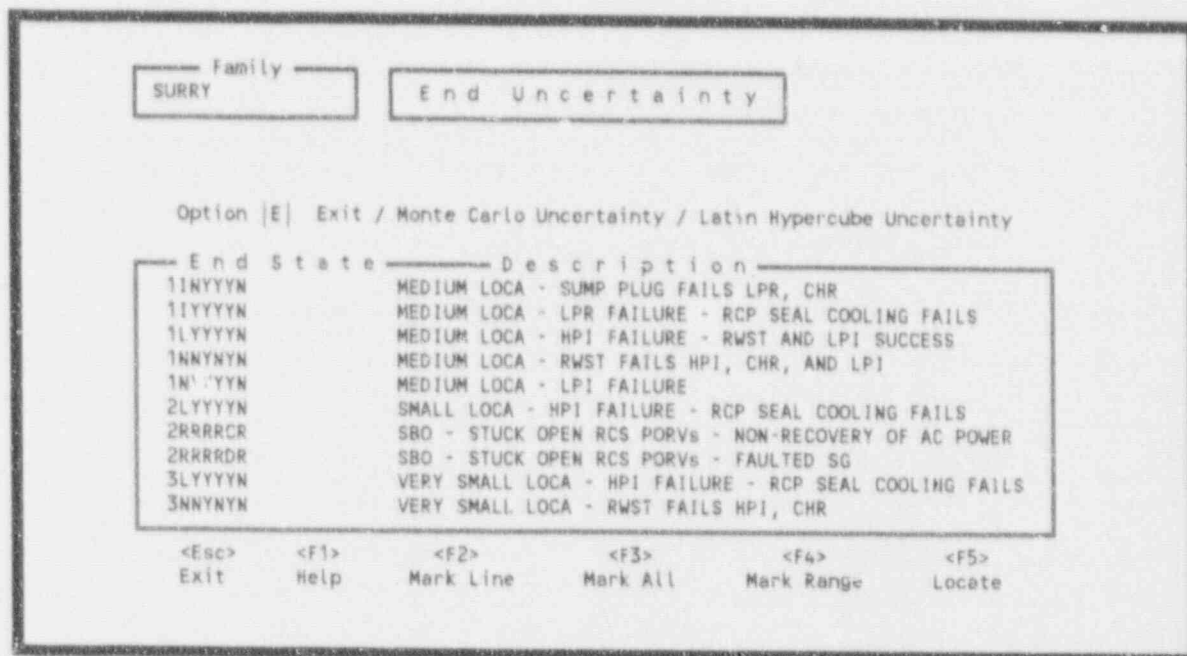

Figure 94. End State uncertainty menu.
**4.3.4.4 End State.** To generate an overall uncertainty analysis for all of the sequences within a selected end state, enter an <N> in the option field. The End State Uncertainty menu will be displayed (Figure 94). From this menu, mark the sequences that will make up the group using the F2, F3, and F4 function keys. From this menu you may run an overall uncertainty analysis for either a single highlighted end state, for a group of marked end states, or for all of the end states within the current family.